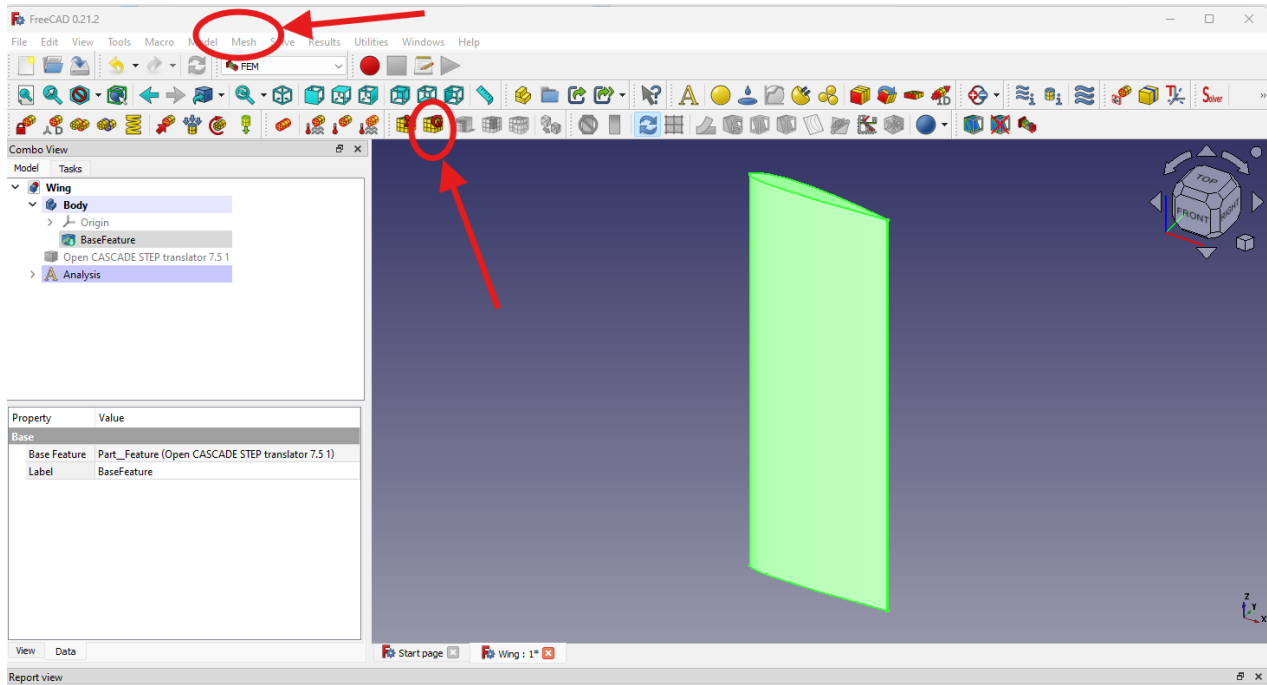

Figure 9: FreeCAD: Add a mesh
- From the menu bar, click **Mesh -> FEM Mesh from shape by GMSH** (Figure 9). The FEM Workbench can generate meshes using different backends; we use **GMSH** here.